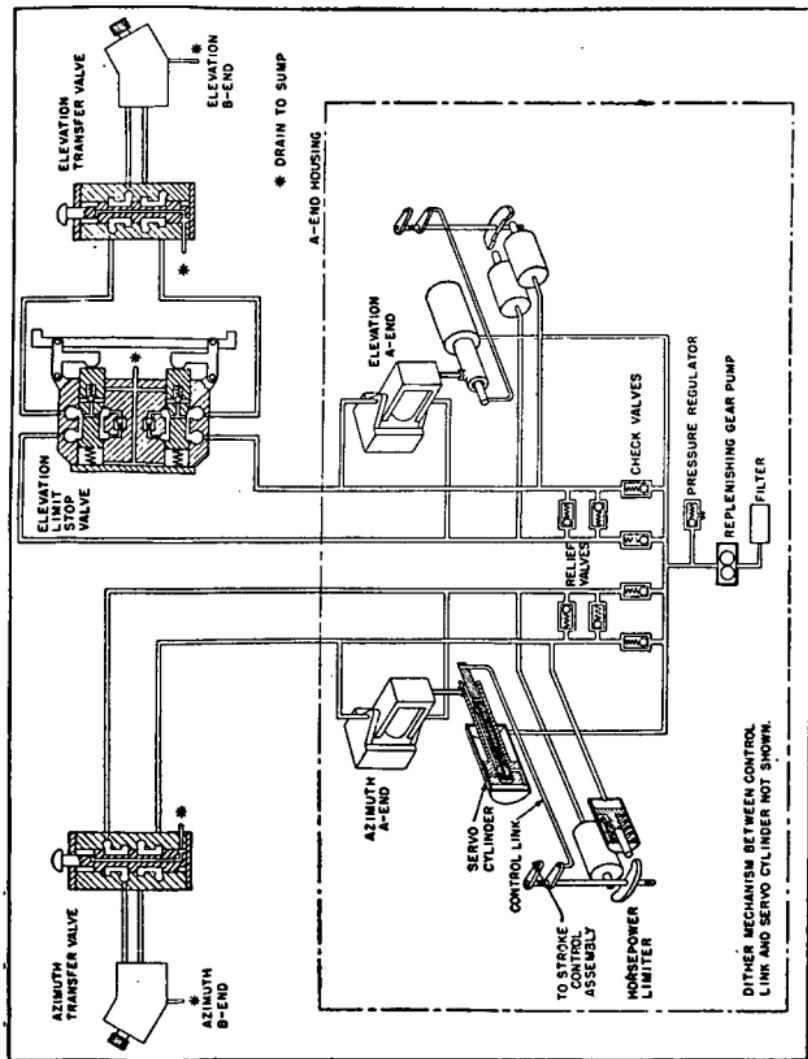

FIGURE 22.—Hydraulic system—schematic.
c. *Hydraulic system.*—The hydraulic system accomplishes the actual moving of the gun. It works as a variable speed rotary drive. (See figs. 22 and 25.)
(8) *Horsepower limiters* (fig. 22).—If there is too much pressure, the relief valves detour the flow of oil, so that it flows back to the A-end pump without going through the B-end motor. However, it may be necessary to reduce the rate of delivery of oil to the A-end pumps when the B-end motor is